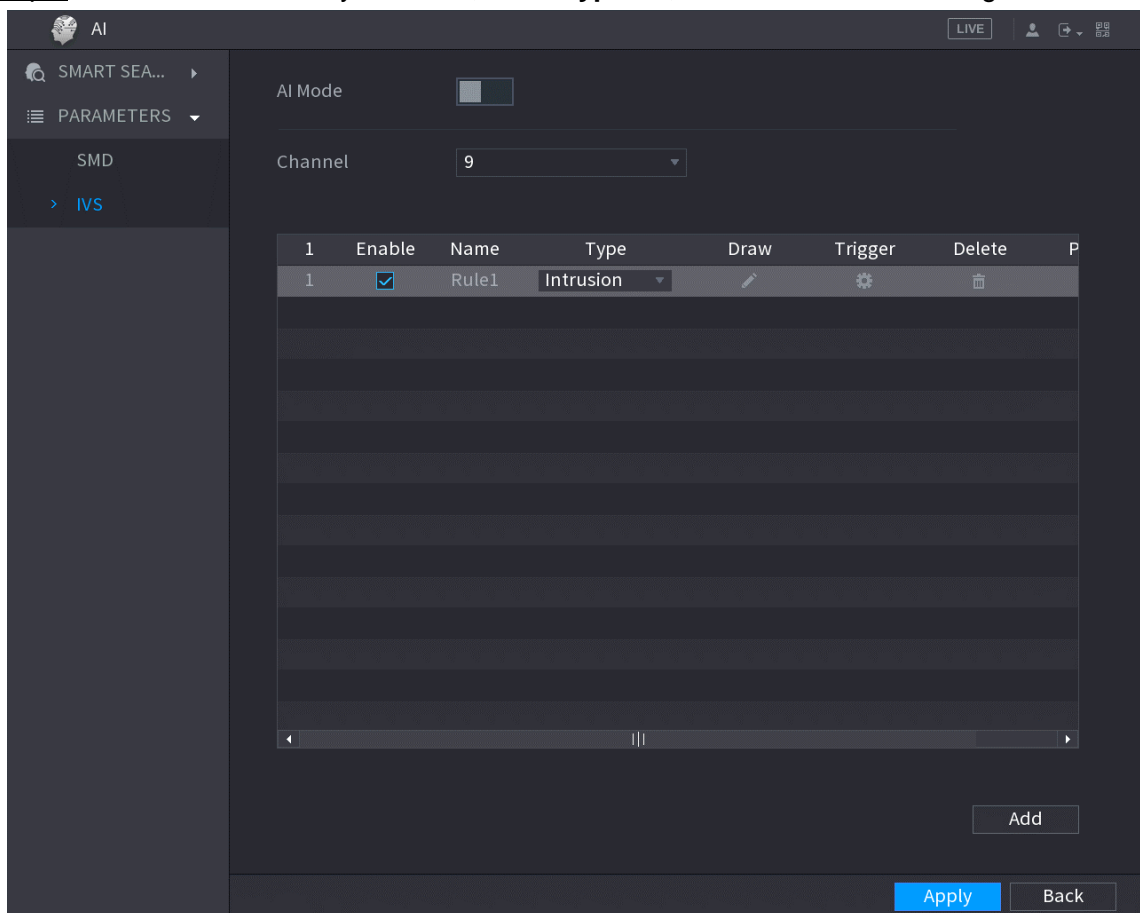

Figure 5-182
**Step 1** On the rule line that you added, in the **Type** list, select **Intrusion**. See Figure 5-182.